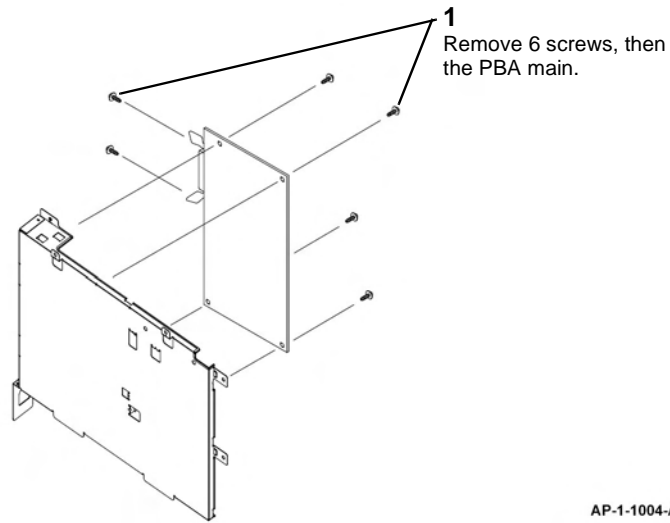

Figure 1 PBA main removal
5. Remove the PBA main, Figure 1.